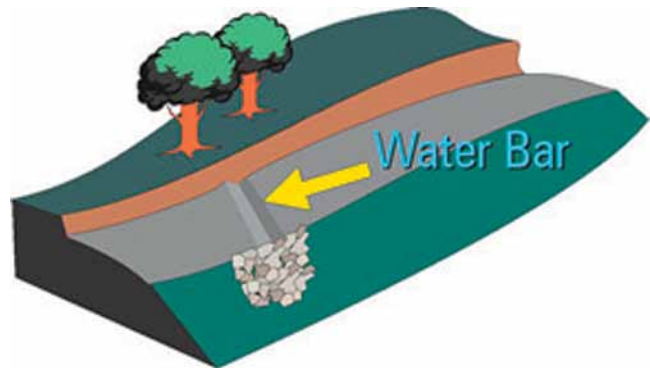

Fig. 4. Water bar.
- **Water bars** are easy to install (Fig. 4) but can act as annoying speed bumps. They can fail when driven over by vehicles.